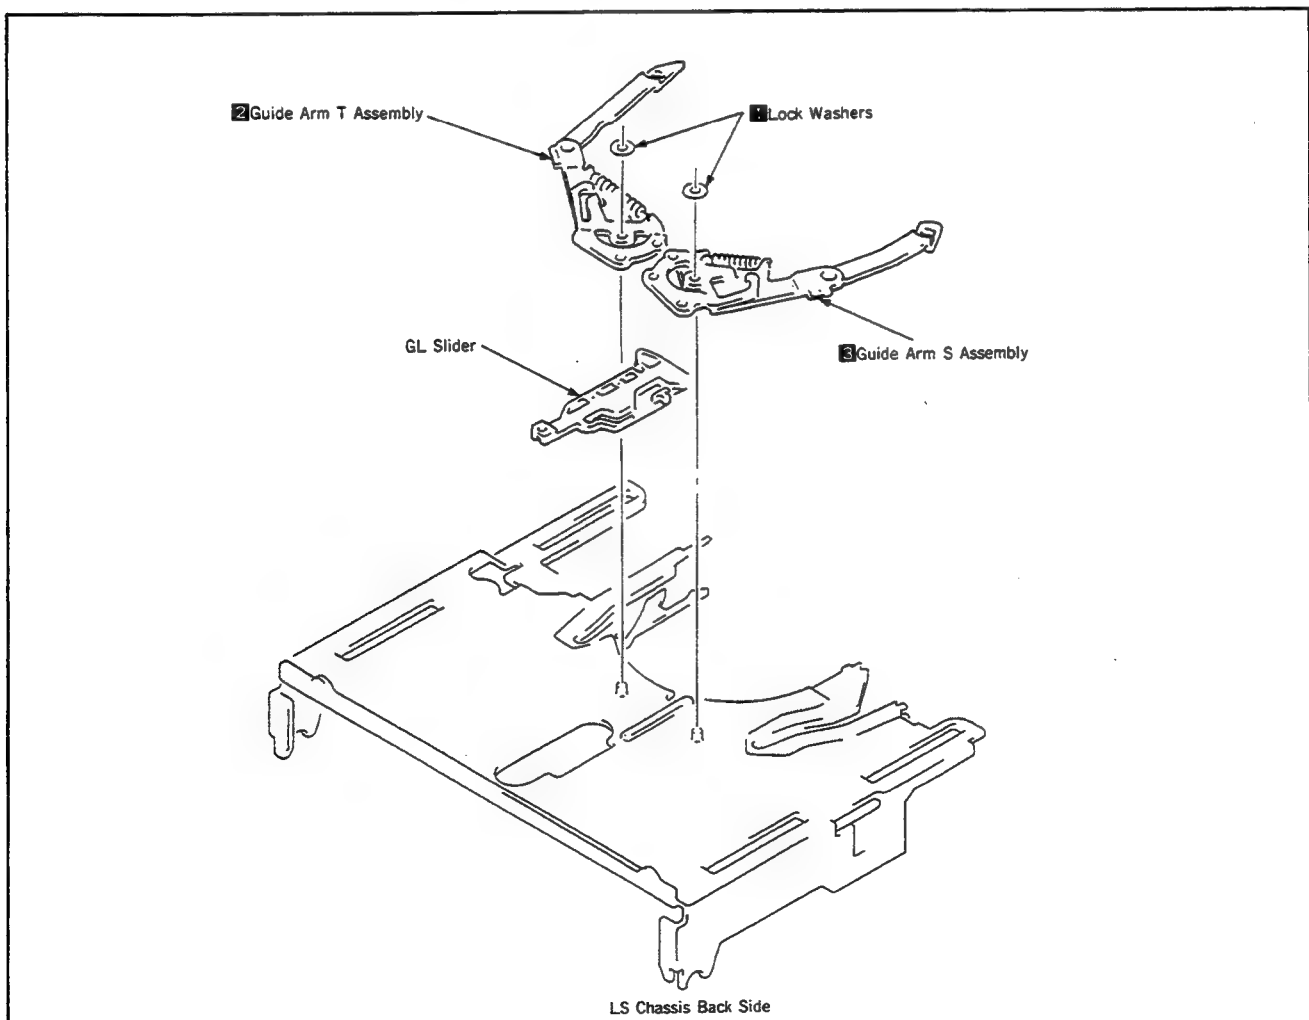

Fig. 17
3. GUIDE ARM T ASSEMBLY AND GUIDE ARM S ASSEMBLY (Fig. 17)